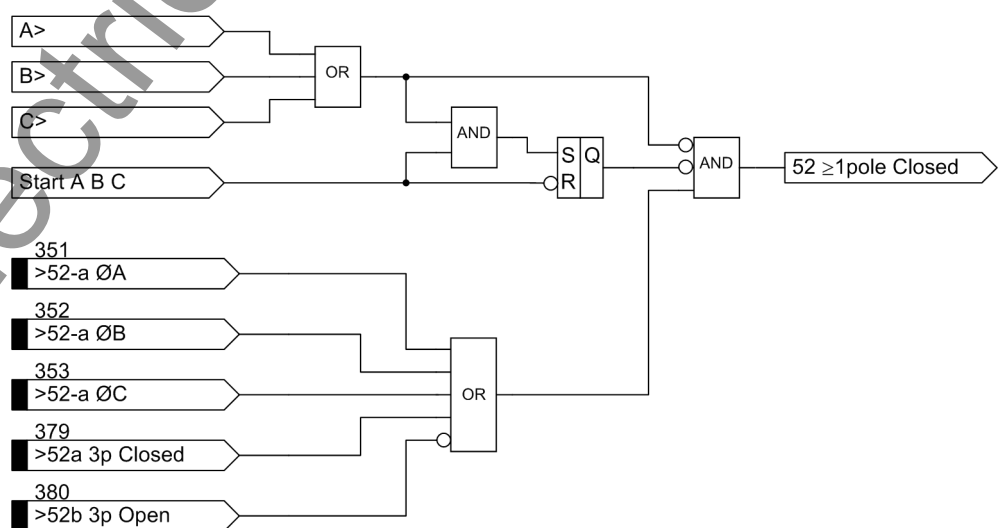
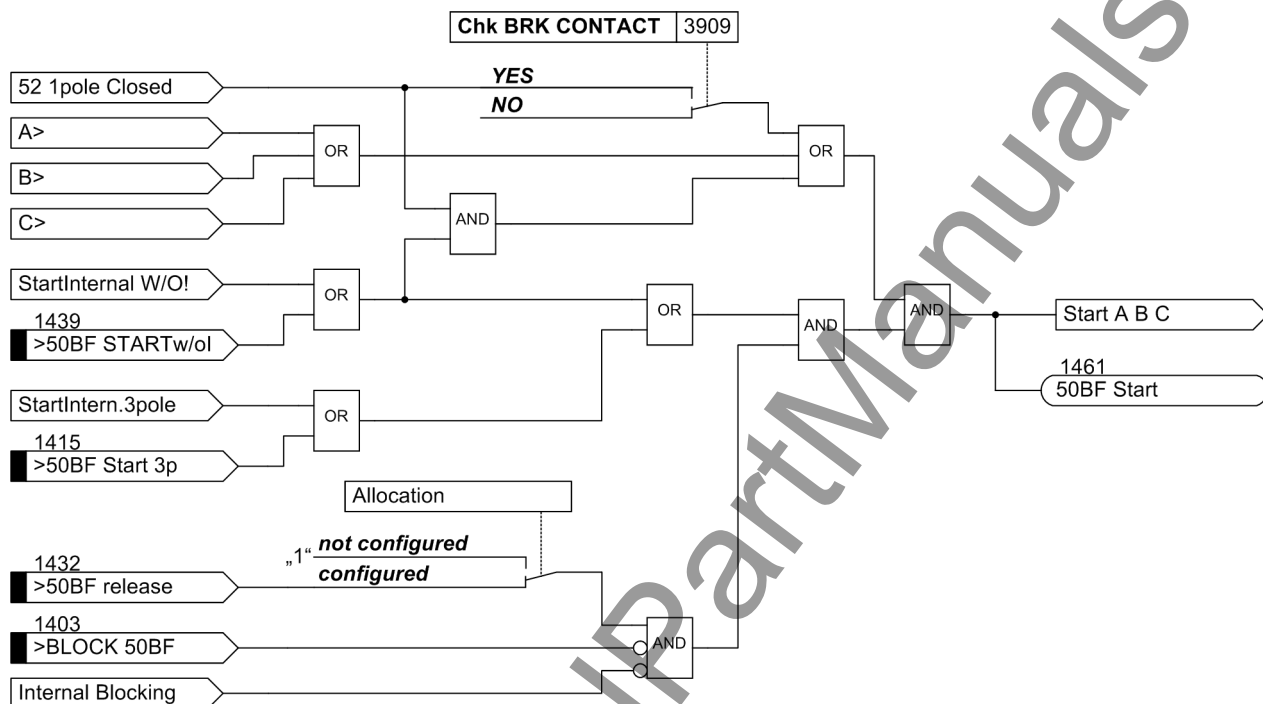

Figure 2-124 Creation of signal "CB $\geq$ any pole closed"
Figure 2-125 Breaker failure protection with common phase initiation
It is possible to disable the auxiliary contact criterion. If you set the parameter switch **Chk BRK CONTACT** (Figure 2-125 top) to **NO**, the breaker failure protection can only be started when current flow is detected. The position of the auxiliary contacts is then not evaluated even if the auxiliary contacts are connected to the device.
required in these cases to check the correct response of the circuit breaker. For this purpose, the binary input ">50BF STARTw/oI" No. 1439 is provided (Figure 2-125 left). This input initiates the breaker failure protection even if no current flow is detected.
Figure 2-125 shows the operating principle. When the trip signal appears from any internal or external feeder protection and at least one current flow criterion (according to Figure 2-122) is present, the breaker failure protection is initiated and the corresponding delay time(s) is (are) started.
If the current criterion is not fulfilled for any of the phases, the position of the circuit breaker auxiliary contact(s) is queried provided that this is available according to Figure 2-124. If the circuit breaker poles have individual auxiliary contacts, the series connection of the three normally closed (NC) auxiliary contacts is used. The circuit breaker has operated correctly after a three-pole trip command only when none of the phases carries current or when all three NC auxiliary contacts have closed.
Figure 2-124 illustrates how the internal signal "52 1 pole Closed" is created (see Figure 2-125 left) if at least one circuit breaker pole is closed.